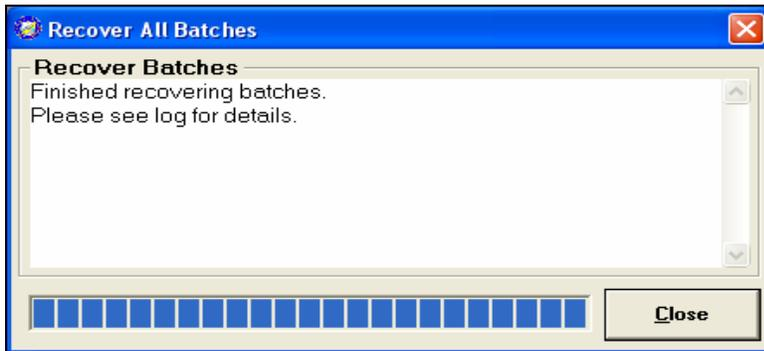

Figure 3.35
17. The following message will appear when the batch recovery is complete. (Figure 3.35)